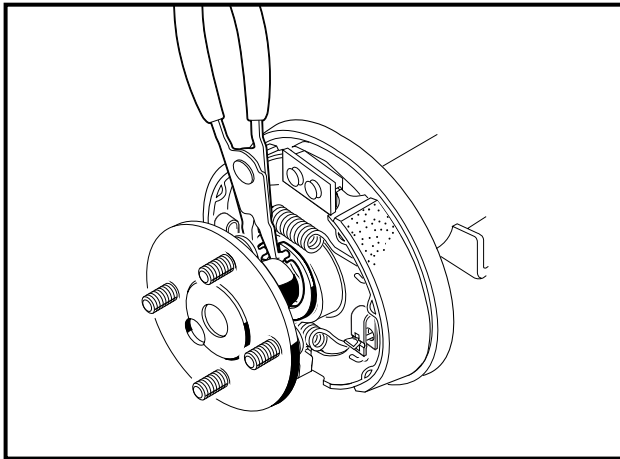
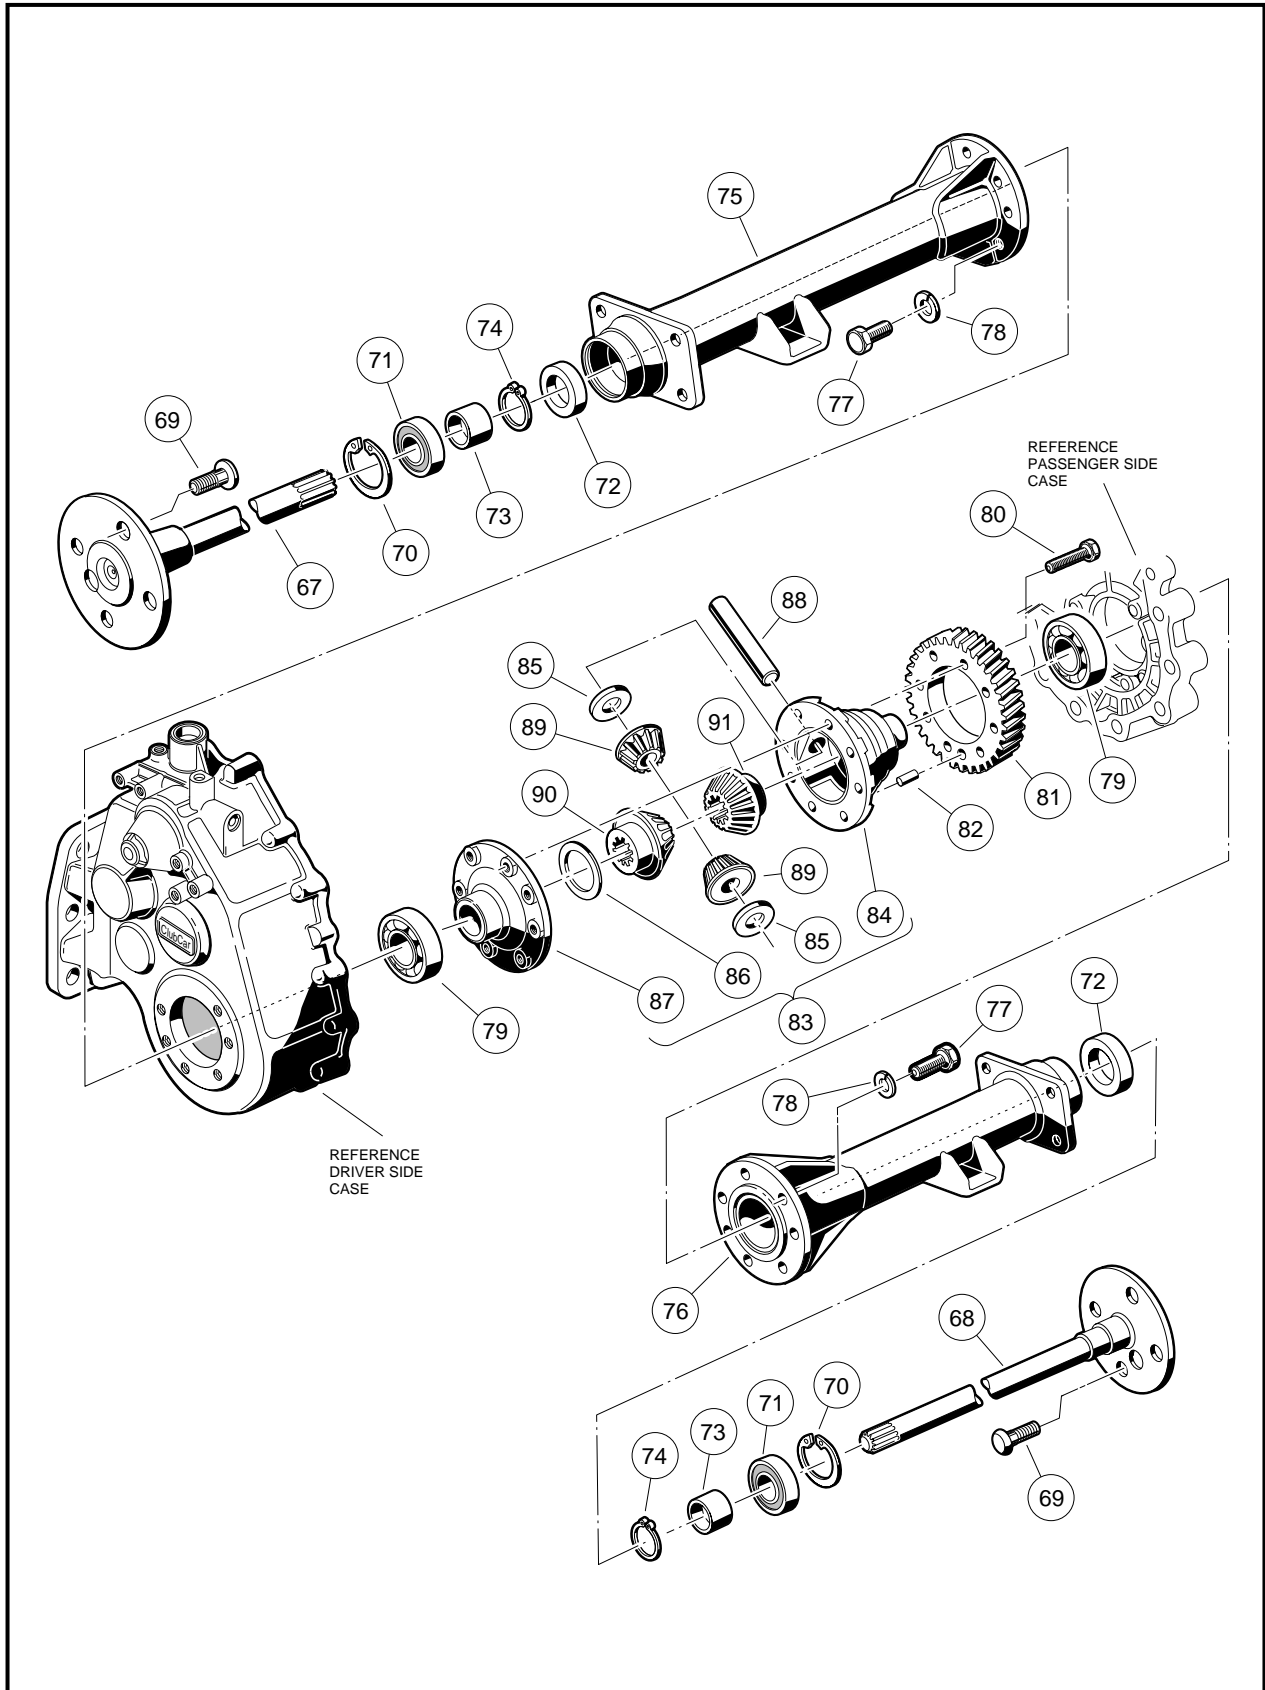
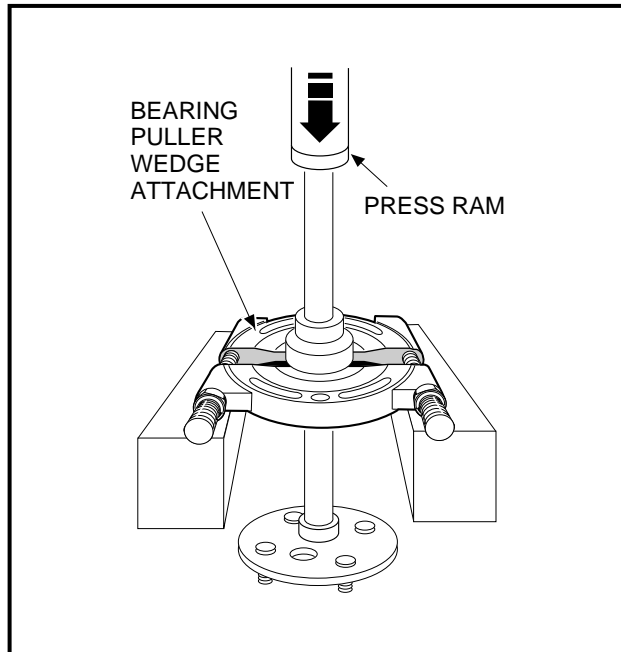
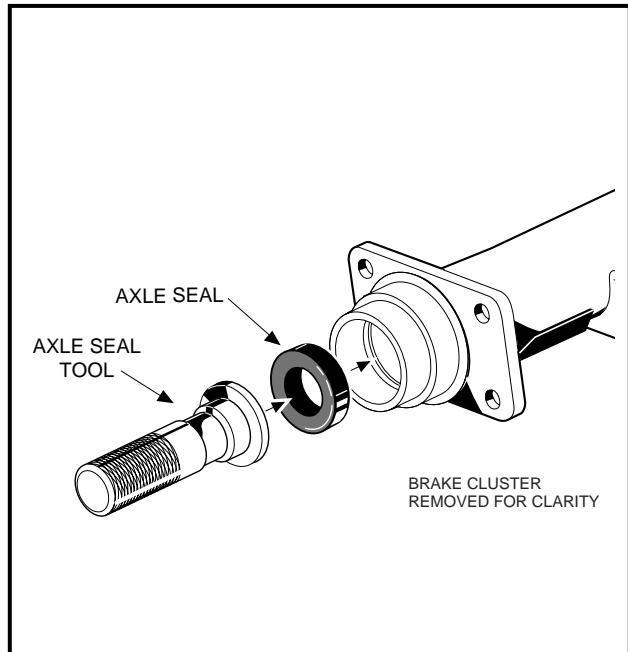

Figure 16-3 Retaining Ring
Figure 16-5 Differential Gear Case/Axle Tubes
Figure 16-7 Bearing and Collar
Figure 16-8 Axle Seal Tool
4. Using 90° internal snap ring pliers (.090 tip), remove internal retaining ring from axle tube (**Figure 16-3, Page 16-3**).
7. Inspect the axle shaft assembly to be sure the bearing (71) and collar (73) have not slipped and are still seated against the shoulder on the axle shaft (**Figure 16-5, Page 16-4**).
1. Use external retaining ring pliers (.047 tip) to remove the retaining ring (74) (**Figure 16-5, Page 16-4**), then place a bearing puller wedge attachment (CCI 1012812) on the axle shaft between the wheel mounting flange and the bearing. **See following CAUTION.**
2. Press the bearing (71) and collar (73) off together (**Figure 16-5, Page 16-4**). Leave the retaining ring (70) on the axle shaft. **See also Figure 16-7, Page 16-6. See following NOTE.**
1. Install axle bearing (71) on axle (67 or 68). Push bearing onto axle until bearing is flush against axle shoulder (**Figure 16-5, Page 16-4**).
3. Install collar (73) (**Figure 16-5, Page 16-4**) onto axle shaft. Place axle assembly on bearing puller wedge attachment and press collar onto axle.
4. Use external snap ring pliers (.047 tip) to install retaining ring (74) (**Figure 16-5, Page 16-4**).
5. Place a **new** (sealed) bearing (71) and collar (73) on shaft (67 or 68) (**Figure 16-5, Page 16-4**).
6. Place the bearing puller wedge attachment against collar and press both bearing and collar onto shaft. Install the retaining ring (74) (**Figure 16-5, Page 16-4**). **See following CAUTION.**
1. Clean bearing and seal seats in axle tube (75 or 76) (**Figure 16-5, Page 16-4**).
2. Place a new seal (72) (**Figure 16-5, Page 16-4**) in axle tube with seal lip facing inside of the axle tube. Use an axle seal tool (CCI 1014162) to press it in until it seats firmly in position (**Figure 16-8, Page 16-6**). **See following NOTE.**
4. Install the retaining ring (70) (**Figure 16-5, Page 16-4**) in the axle tube. **See also Figure 16-3, Page 16-3.**